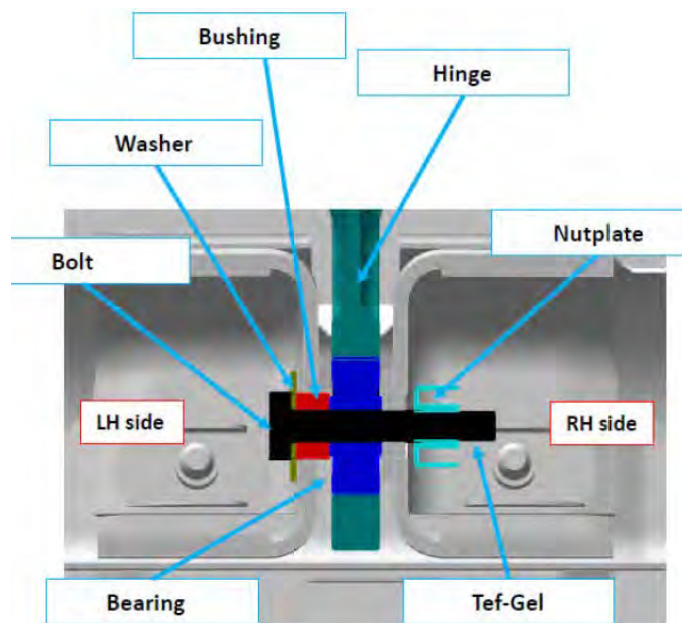

FIGURE 13-17
3. Install elevator center hinge bolt and washer. Apply lubricant prior to installing and torque to 26 in-lbs. See Figure 13-17.